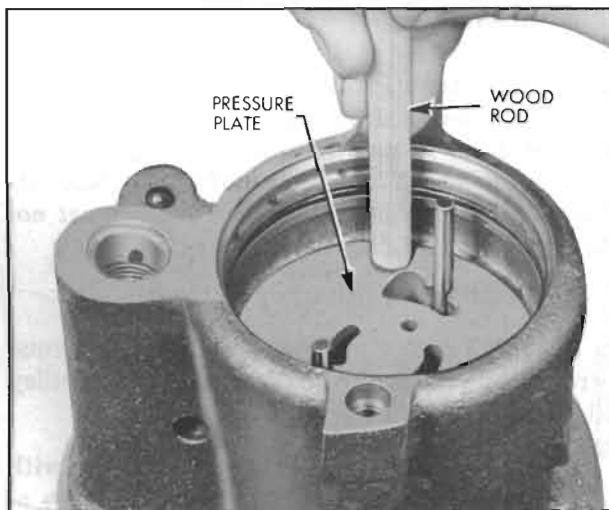

Figure 8-57—Seating Pressure Plate in Housing
9. Lubricate the outside diameter and chamber of pressure plate with petroleum jelly and install on dowel pins with ported face toward pump ring. Dowel pins fit into slots in plate that are nearest outside diameter of plate. Use a soft plastic or wood rod and lightly tap around outside diameter of pressure plate to seat it. See Figure 8-57. Pressure plate will travel about  $\frac{1}{16}$ " to seat. Never press or hammer on the